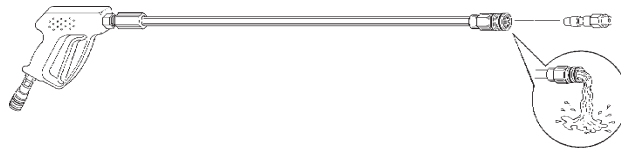

FIGURE 2.3 - GUNVALVE, EXTENSION, & NOZZLE
4. When water flows in a full steady stream, release gun trigger. (Fig. 2.3)